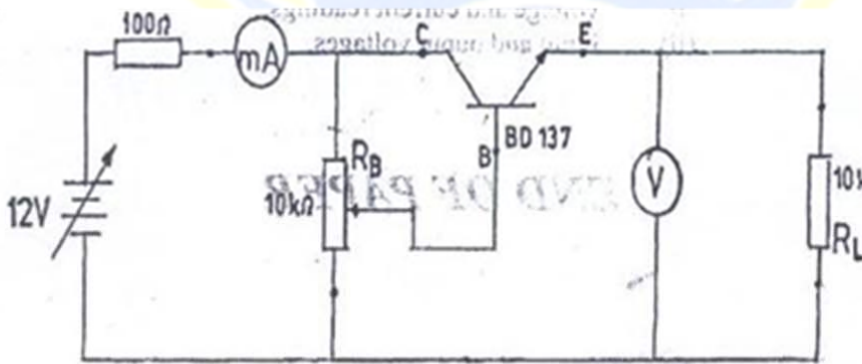

Figure 2
- (a) **Connect the circuit as shown in figure 2.**